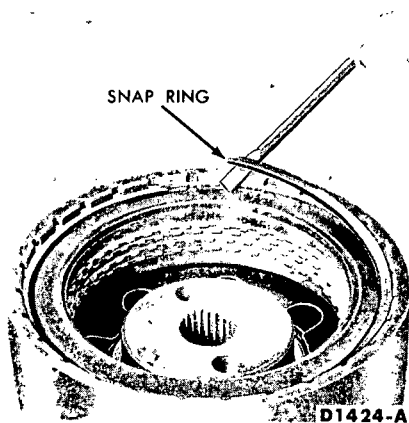

FIG. 87—Removing Forward Clutch Pressure Plate Snap Ring
1. Remove the clutch pressure plate retaining snap ring (Fig. 87).
9. Install the pressure plate retaining snap ring (Fig. 87). Make sure the snap ring is fully seated in the ring groove of the clutch hub.